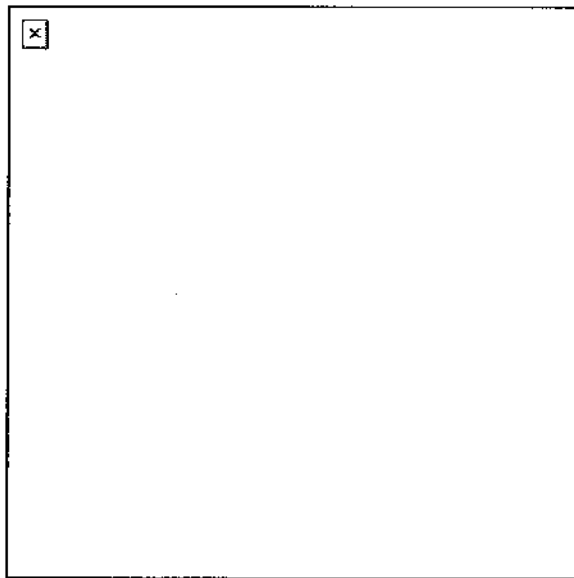

Figure 1. Sighting reticle.
NOTE: Ensure the AN/PVS-4 has the proper sighting reticle (Figure 1).
2. Use the sight reticle. When used with the rifle, the AN/PVS-4 sight reticle consists of two parts (Figure 1).